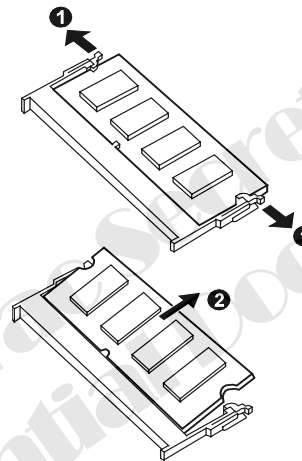

Figure 2-14 Remove the SO-DIMM
3. Pull the retaining clips outwards (❶) and remove the SO-DIMM (❷). (Figure 2-14)